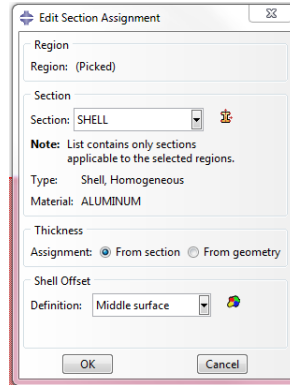

Figure 13. Edit Section Assignment (SHELL)
- The **Edit Section Assignment** dialog box will appear. Ensure that **SHELL** is selected under the **Section** option. Under the **Shell offset** option make sure the drop down definition is set to **Middle surface**. The **Edit Section Assignment** dialog box should look identical to that in Figure 13.